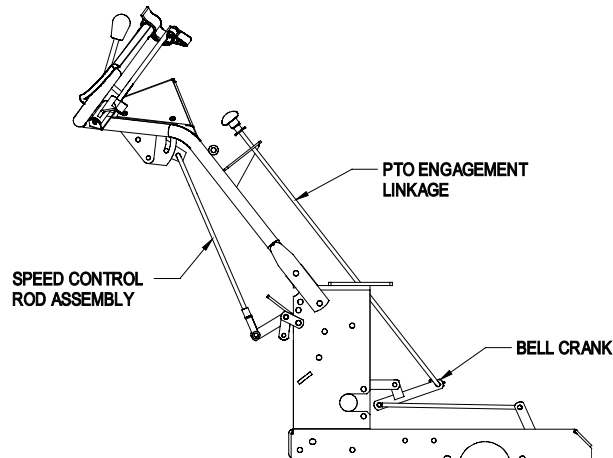

FIGURE 5
- 3.12 Install the speed control rod assembly (linkage with the yoke installed on one end) into the end of the speed control lever located underneath the center of the console. Insert the end of the linkage (opposite the yoke) into the end of the speed control lever from the right hand side and fasten with a hairpin from the bolt bag (See Figure 5).